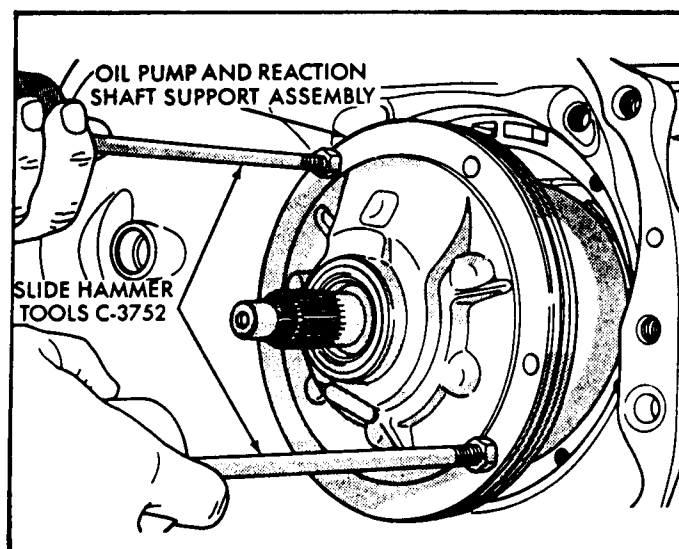

Figure 14
25. Remove the front pump assembly using slide hammers, as shown in Figure 14.